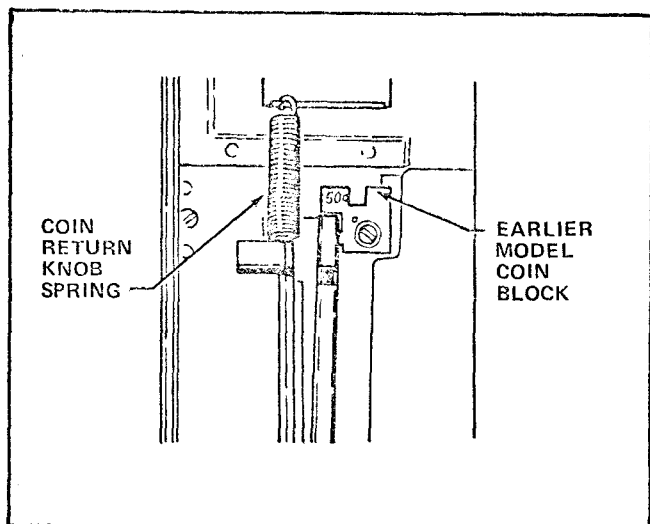

FIGURE 1
2. Disconnect the Coin Return Knob Spring from the Coin Return Knob. See Figure 1.